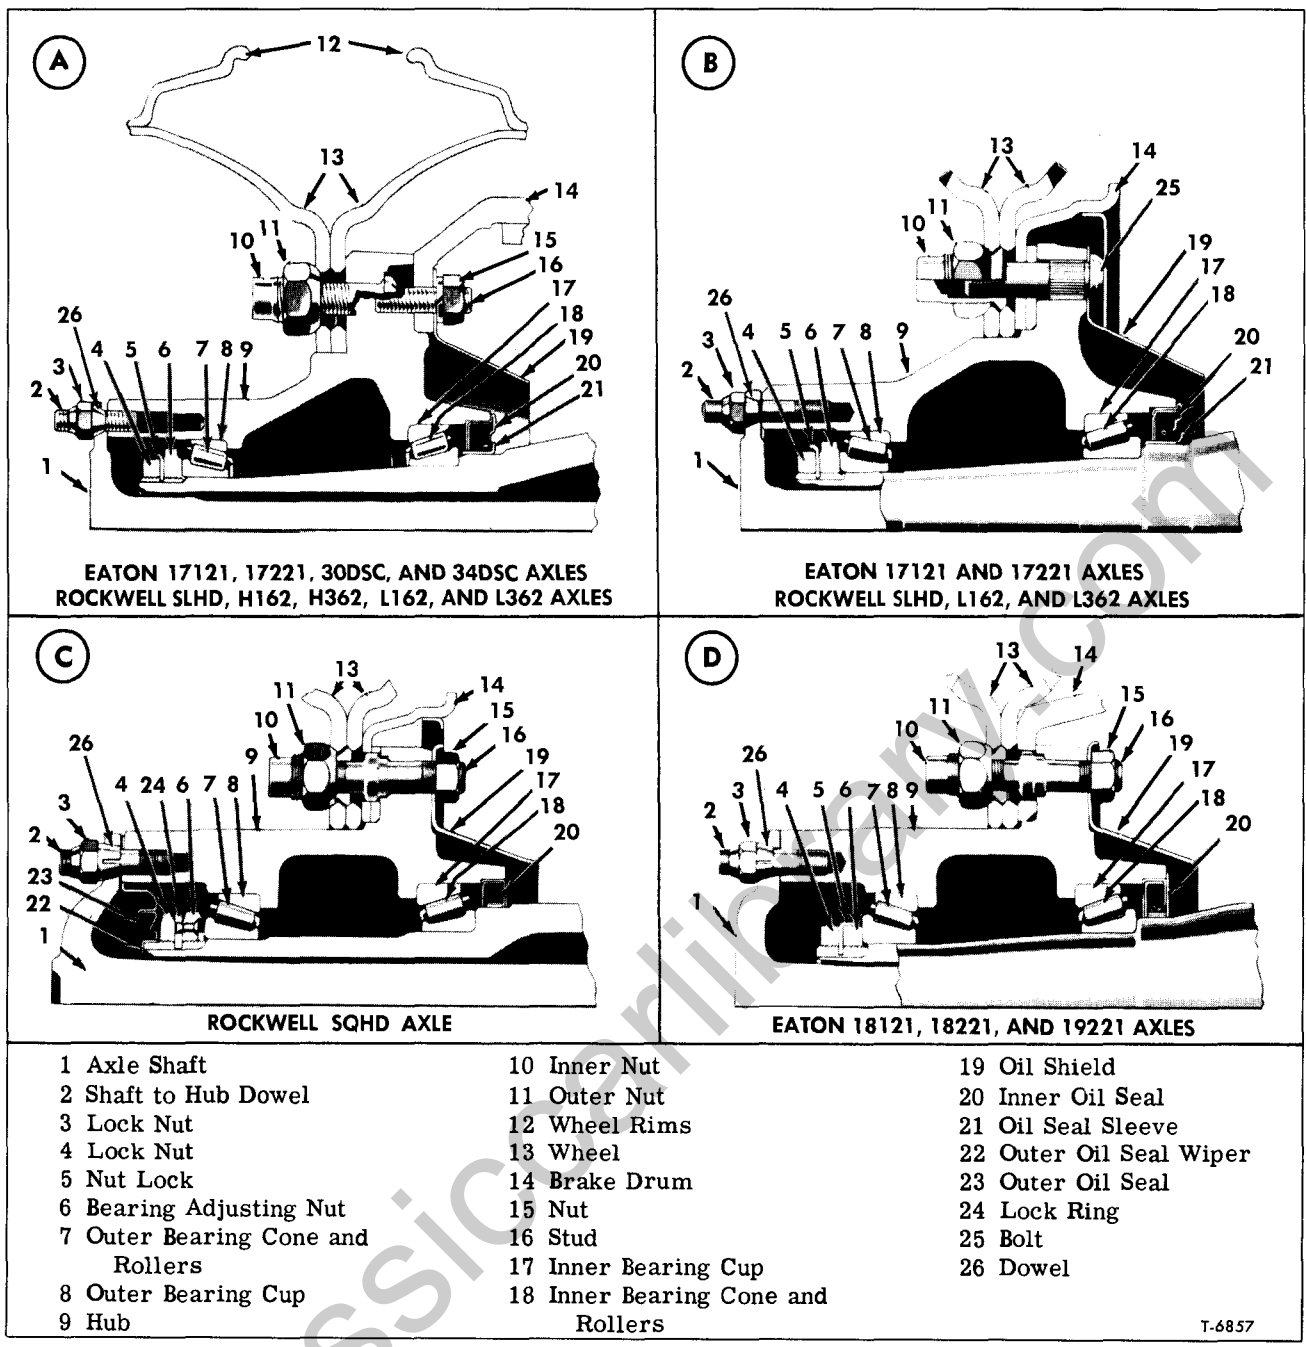

Figure 2—Rear Hubs and Bearings (with Disc-Type Wheels)
Rear hubs are mounted on axle housing tube on opposed tapered roller bearings as shown in figures 2 and 3. Hubs, bearings, and oil seals illustrated in figures 2 and 3 are identified with type of rear axle. Refer to "Protect-O-Plate" in Owner Protection Plan booklet to determine type of axle used on a specific vehicle.
Mounting parts (mainly bearings, adjustment and lock nuts, seals, and sleeves) shown in figures 2 and 3 are of primary importance. Brake drum mounting bolts, studs, and nuts differ in type and method of installing on various series vehicles.
REMOVAL (Figs. 2 and 3)
INSTALLATION (Figs. 2 and 3)
a. Press seal into hub until shoulder is against outer edge of hub. Lip of oil seal goes into hub first (see figs. 2 and 3).